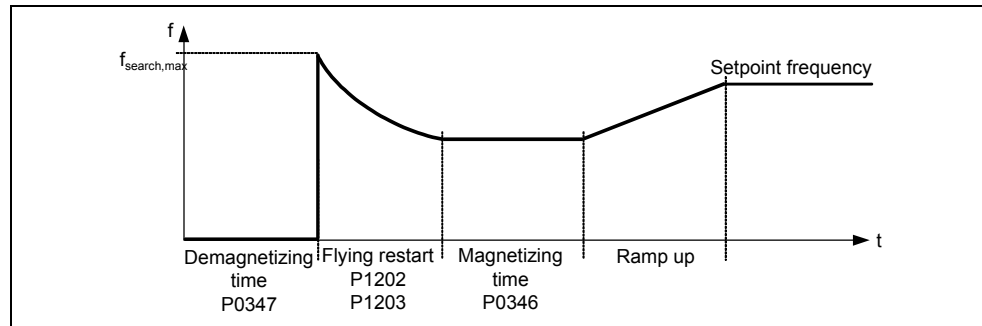

Fig. 3-61 Flying restart
- a) Depending on parameter P1200, after the de-magnetizing time has expired P0347, flying restart is started with the maximum search frequency  $f_{\text{search,max}}$  (refer to Fig. 3-61).
The search frequency is reduced, as a function of the DC link current with the search rate which is calculated from parameter P1203. In so doing, the parameterizable search current P1202 is impressed. If the search frequency is close to the rotor frequency, the DC link current suddenly changes because the flux in the motor establishes itself. Once this state has been reached, the search frequency is kept constant and the output voltage is changed to the voltage value of the V/f characteristic with the magnetizing time P0346 (refer to Fig. 3-61).